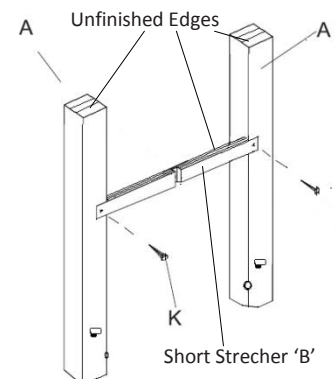

Figure 2: Leg & Short Stretcher
1. Attach the Short Stretcher 'B' to the Legs 'A' with 2" Socket Hex Screw 'K' so that the unfinished edge is facing lower end of the legs as shown in Figure 2.